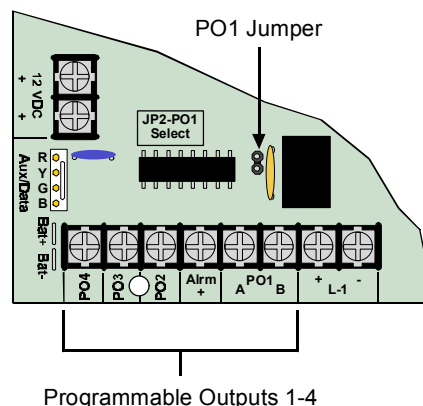

Figure 5: On-Board Outputs
- **Programmable Output 1 (PO1):** PO1 terminals can be configured as an alarm power output. JP2-PO1 Jumper must be closed. The default configuration for Programmable Output 1 makes it a dry contact, normally open relay. The PO1 Jumper is open. See Figure 5 for jumper location.